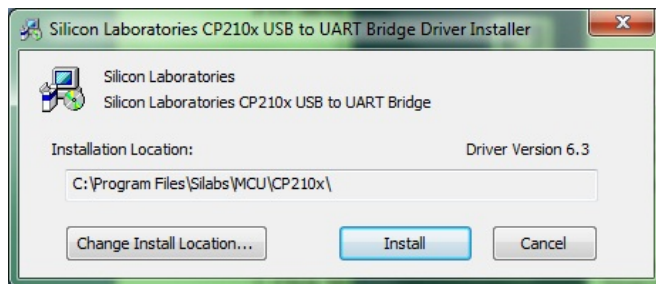

Figure 20 - USB Common Driver Install
7. Click **Install** to continue. Once the installation is complete, the **Installation Successful** message displays (see Figure 20).